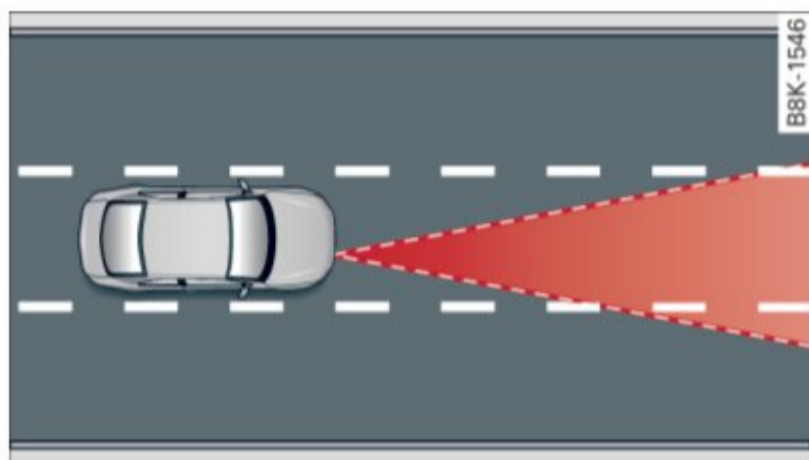

Fig. 100 Detection range
- Objects can only be detected when they are within sensor range ⇒ *page 97, fig. 100*.